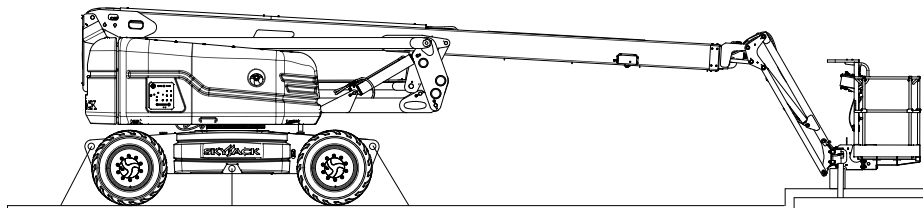

Figure 30 Platform Tie-down
8. Place block underneath platform rotator and gently lower rotator onto block and secure in place. Strap must be secured underneath hoses and cables to avoid damage to MEWP (refer to Figure 30). Do not use excessive downward force when securing platform.